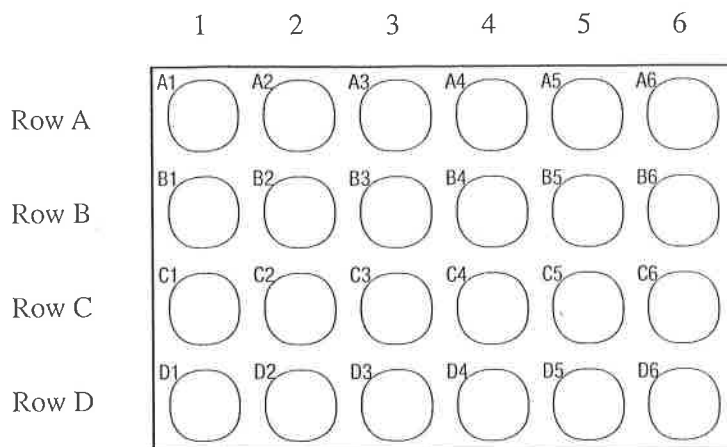

Figure 3.
1. Place the 24-well plate on top of a piece of white paper so that there are 6 wells across (columns) and 4 wells down (rows). Refer to Figure 3 to see how the wells are arranged. Note that each well is identified by a unique combination of a letter and a number, where the letter refers to a horizontal row and the number to a vertical column.
2. Put one dropper-full (about 15 drops or 1 mL) of copper(II) nitrate solution in wells B1, C1, and D1 in the first column.